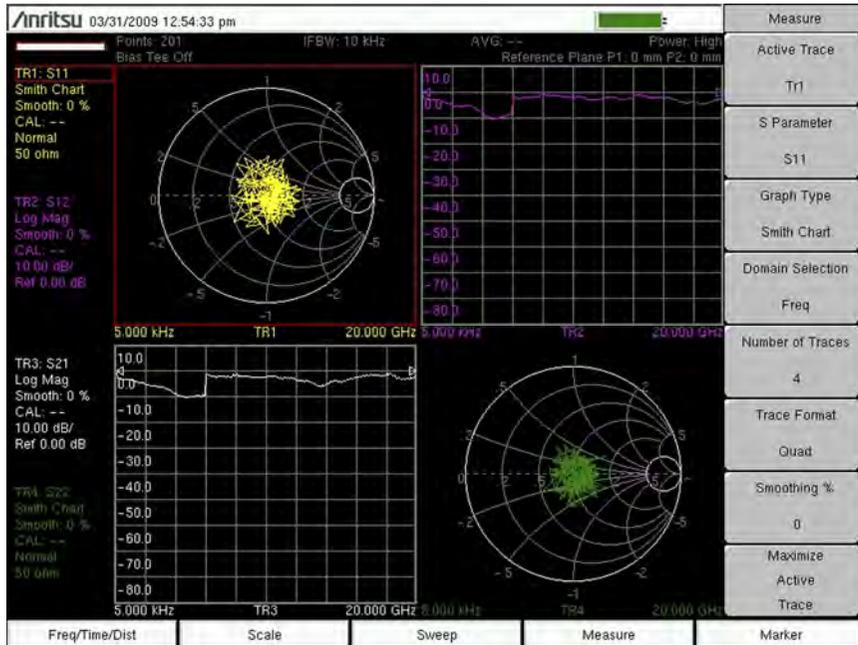
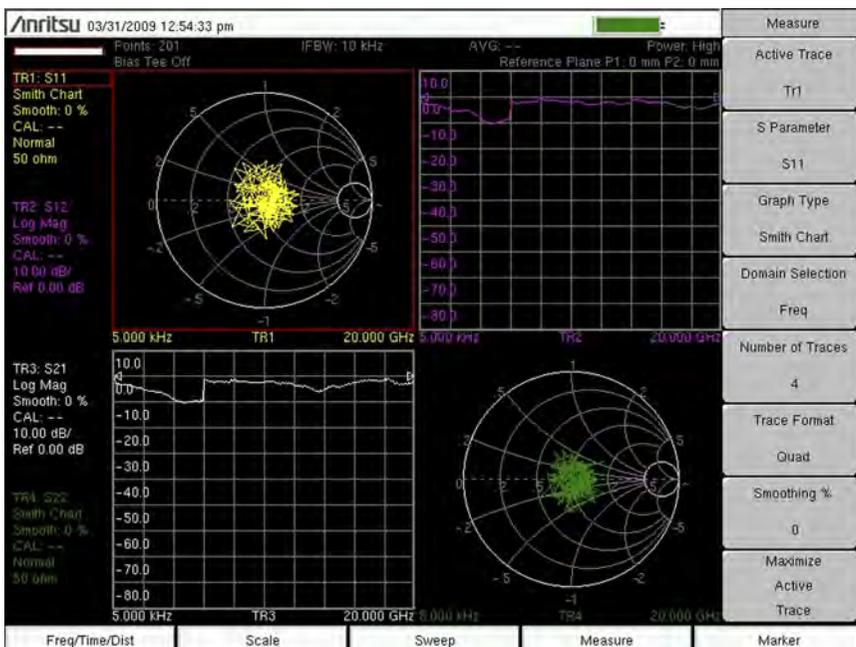

Figure 3-1. Format = Quad, Traces = 4
Figure 3-6. Format = Quad, Traces = 4
1. The default view uses Trace Format = Quad with Number of Traces = 4. Refer to Figure 3-1 on page 3-4.
6. Increment the number of traces from 1 back to 4 and note how the VNA Master adds the additional traces to the display. Refer to Figure 3-6 on page 3-6. (Note that Figure 3-1 and Figure 3-6 are the same measurement illustration.)